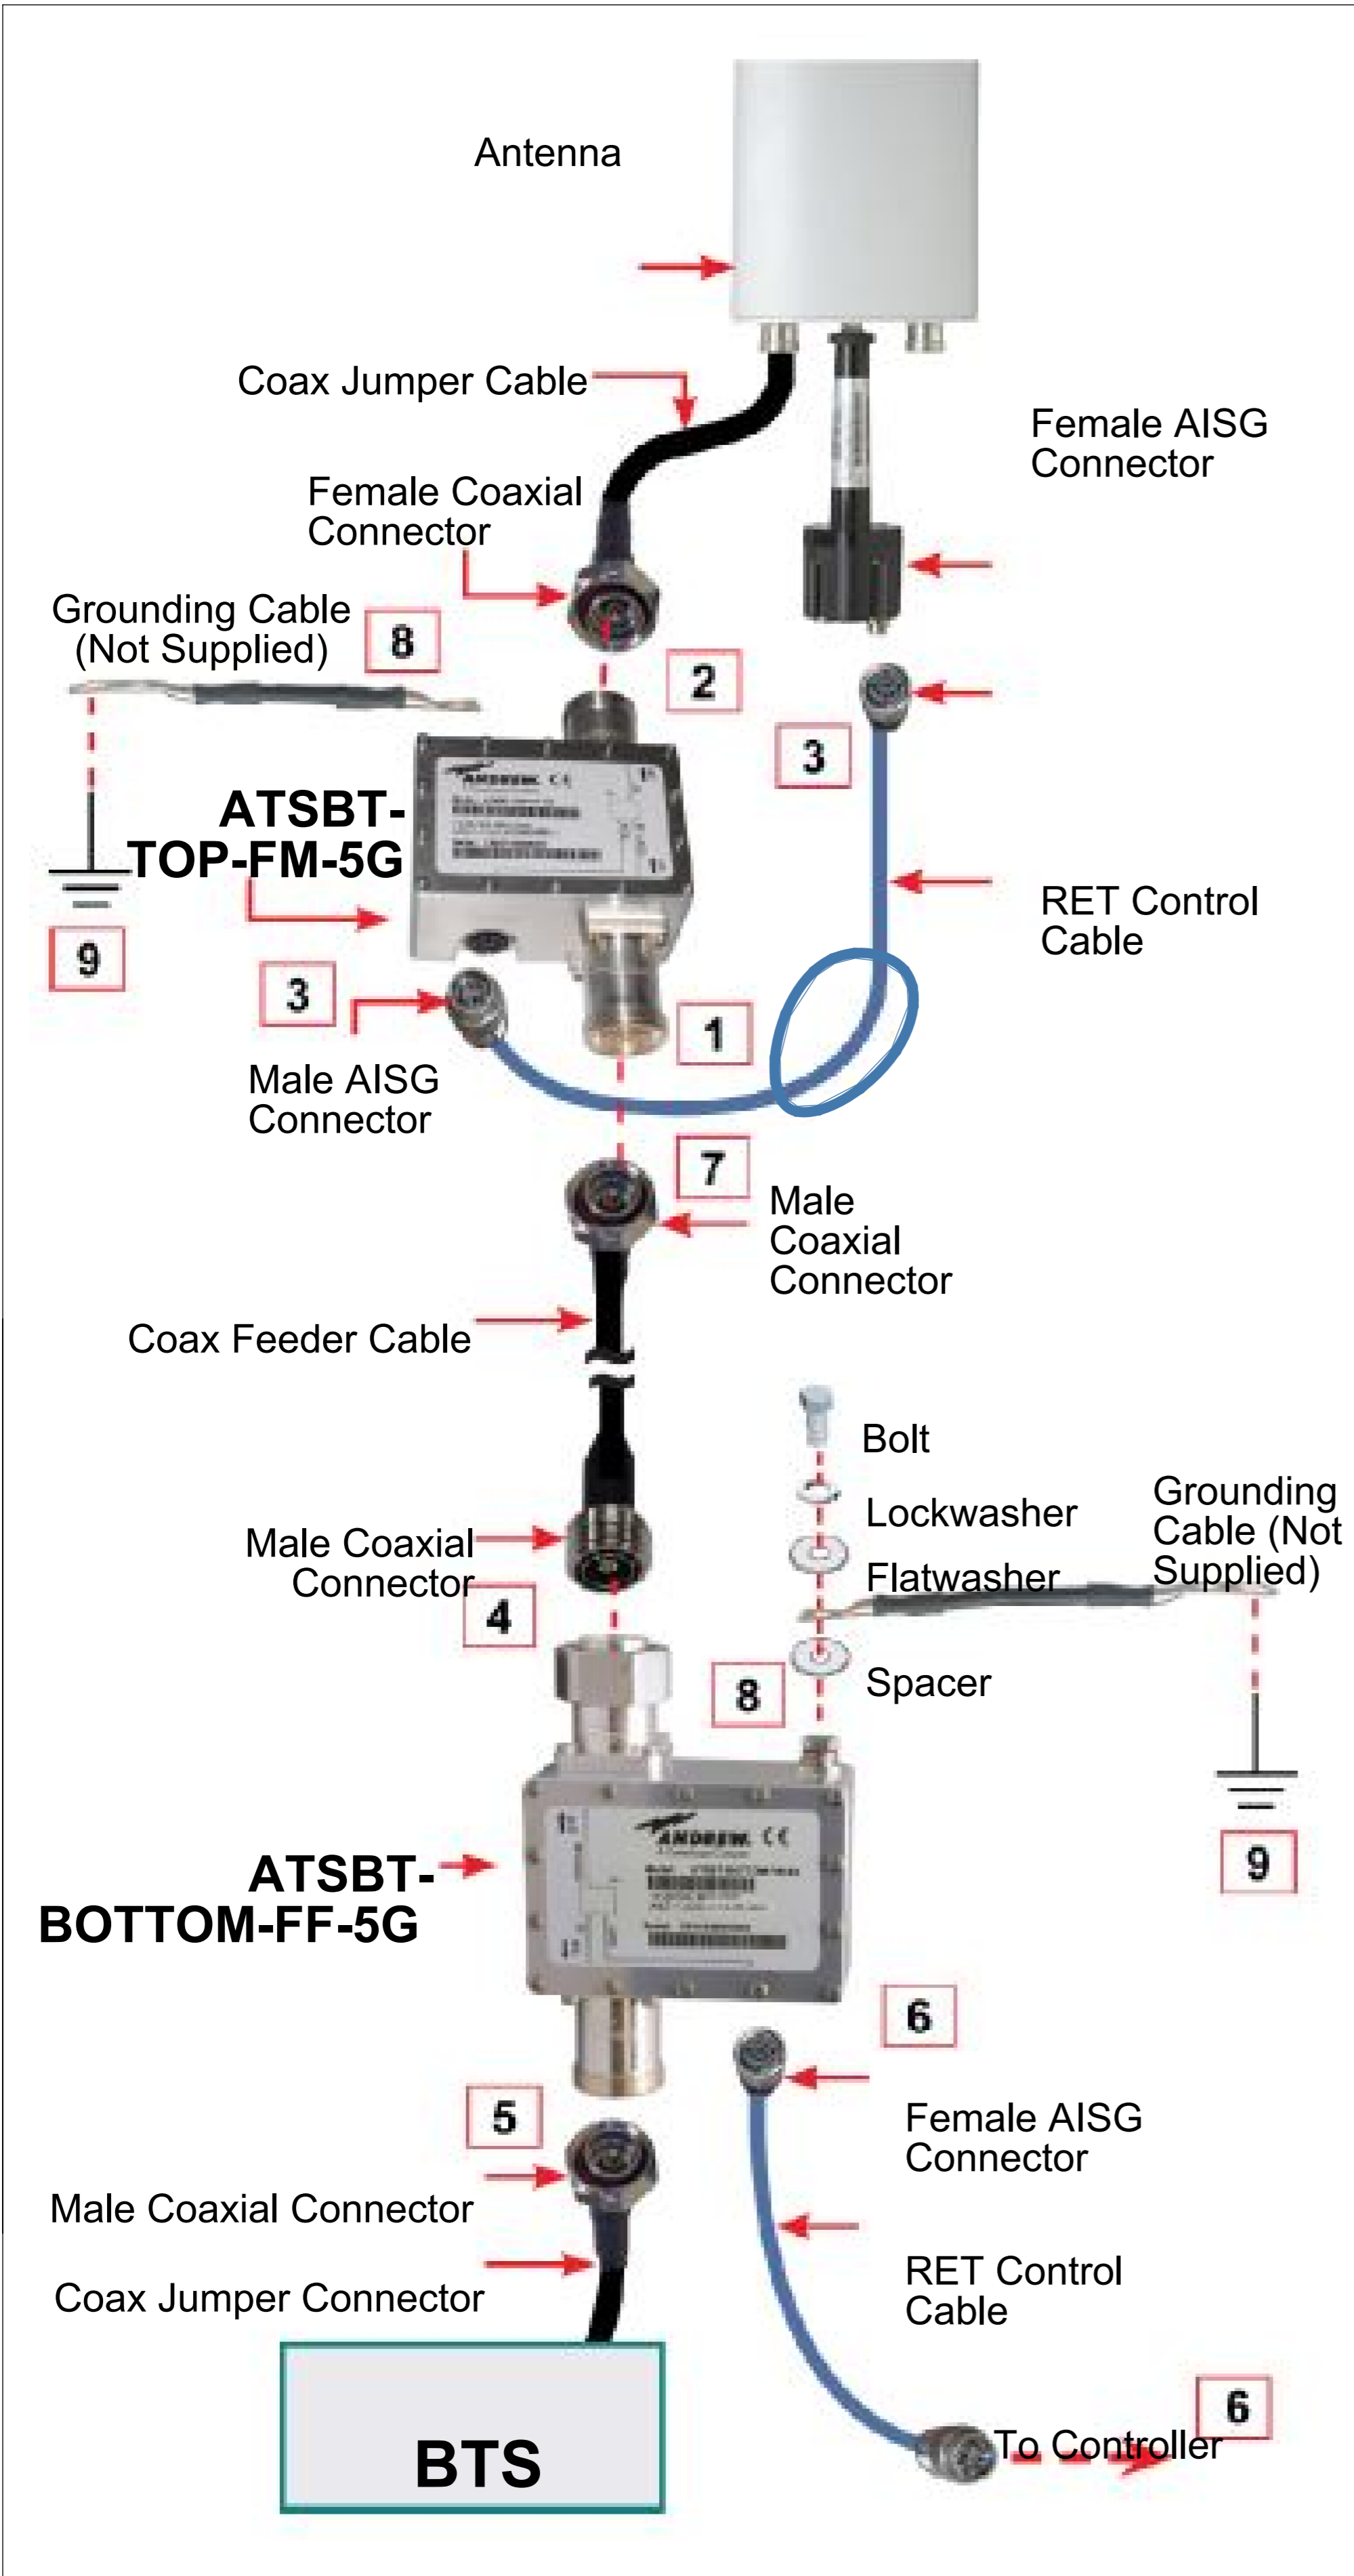

Figure 7. Example Of One Set-Up Using The ABSBT-5G Series Smart Bias Tees In A RET System.
Install top and bottom ATSBT-4G or ATSBT-5G Series Smart Bias Tees by following steps 1 through 9, detailed in Figure 7.
- b) Depending on the RET cable length, CommScope recommends forming a loop in the cable as shown below in step 3 of Figure 7. Next attach the male end of the RET control cable to the Smart Bias Tee and the female end to the actuator.
One or both of the Smart Bias Tees are installed backwards.	See Figure 7 and installation diagram on the label for correct orientation.